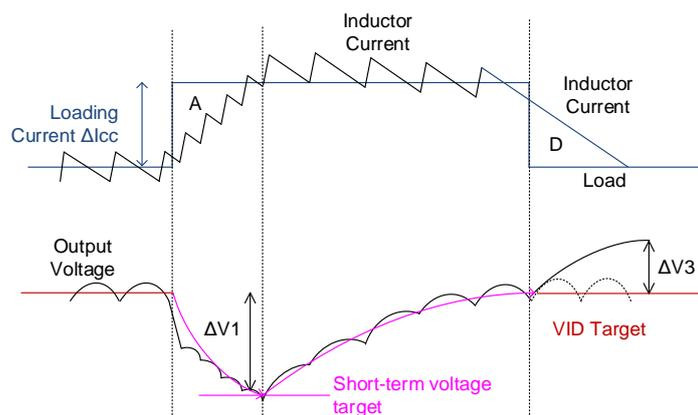

Figure 19. Zero Load Line with AC-Droop Control
Figure 19 shows the condition with AC-droop control. While loading occurs, the controller temporarily changes the VID target to the short-term voltage target. The short-term voltage target is related to the transient loading current ΔI_{CC} and can be represented as follows:
Where the V_{CS} is the current sensing signal from DCR sensing or SPS current sensing. For DCR sensing, $V_{CS} = I_{CC_MAX} \times DCR$. The current gain (AI) can be set by the Pin Setting of AI Gain. Users can select AI gain according to Table 8 to set the desired short-term voltage target. The short-term voltage target reverts to the VID target slowly after approximately $100\mu s$. The short-term voltage target can help the inductor current not to exceed the loading current too much, and then the ring back can be suppressed. As shown in Figure 19, the overshoot amplitude is reduced to only $\Delta V3$.